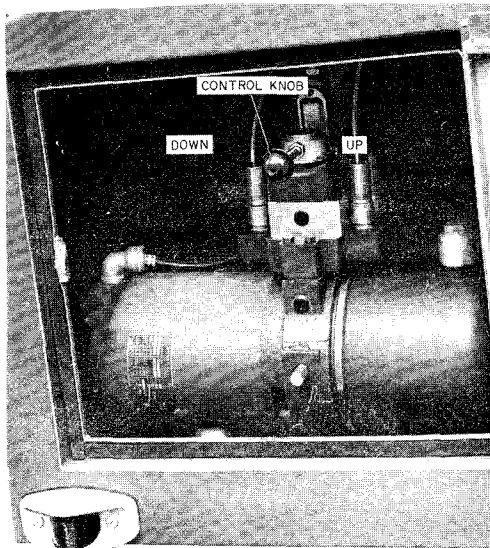

Fig. 5—Reel Loader Control
2.08 A hydraulically operated reel loader-carrier is mounted on the rear of the truck. The standard size loader-carrier has a capacity of 2500 pounds, and the heavy duty model has a capacity of 3500 pounds. The capacity of each loader-carrier is clearly marked on the arm. The control (Fig. 5) for the loader is usually located in the right rear compartment of the truck.